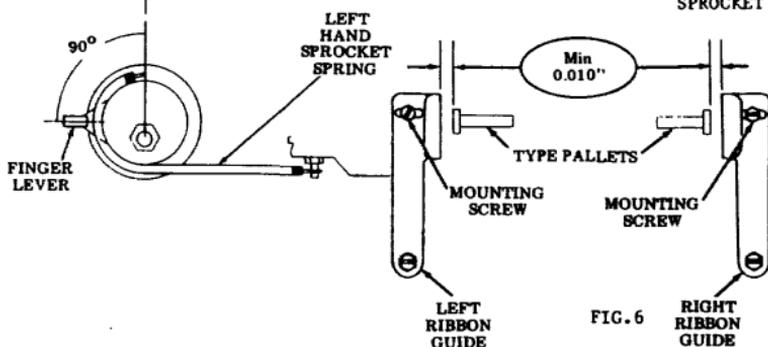

FIG. 6
- Position a .010" flat gauge against each ribbon guide and rotate the impeller shaft through one complete rotation of the carrier to check for a minimum .010" clearance between the closest pallet and ribbon guide (Refer to Fig.6).